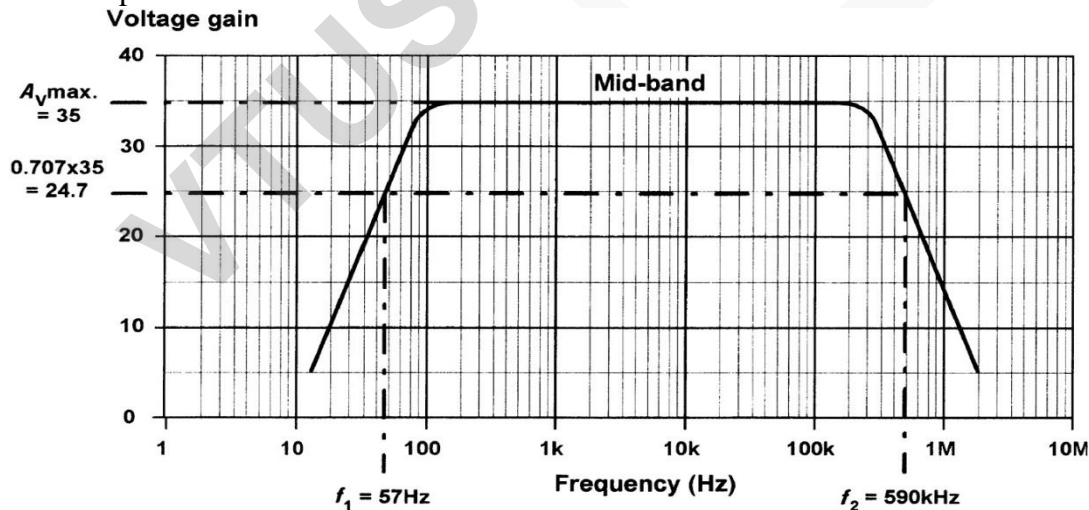

Fig.17. Mid-band voltage gain, upper and lower cut-off frequencies of amplifier with frequency response
Example: Audio amplifiers have a flat frequency response (as shown in fig.17) over the audio range of frequencies from 20 Hz to 20 kHz. This range of frequencies, for an audio amplifier is called its Bandwidth, (BW).